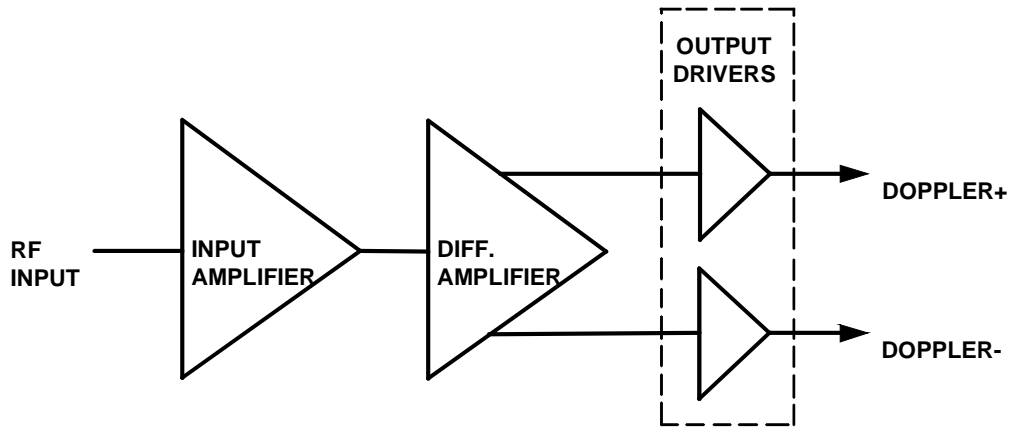

Figure 1-4. Doppler Amplifier Module Simplified Block Diagram
**1.19.3 Doppler Amplifier.** For the following description, refer to Figure 1-4. The Doppler amplifier consists of an amplifier with a bandwidth of 3-140 kHz. The input of the Doppler amplifier is the RF system output, which is filtered, amplified, shaped, and transmitted through a differential line driver to the muzzle velocity processor.